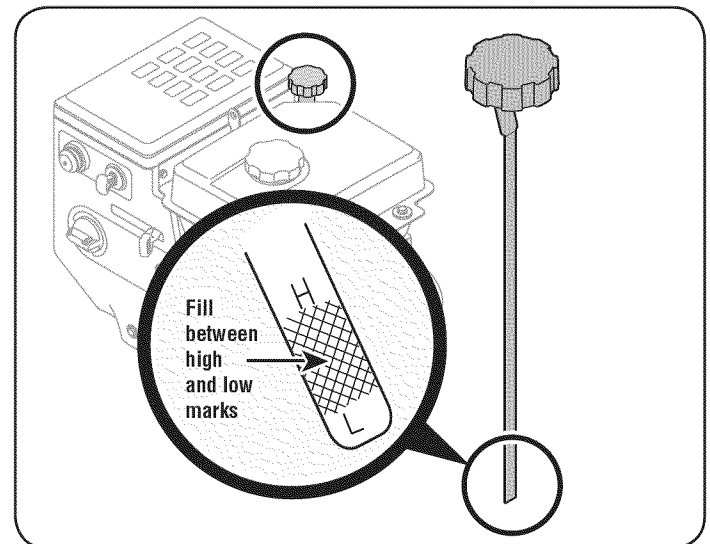

Figure 9
1. Remove oil filler cap/dipstick, wipe the dipstick clean. See Fig. 9.
3. Remove the oil filler cap/dipstick. If the level is low, slowly add oil until oil level registers between high (H) and low (L), Fig. 9. Refer to the Engine Maintenance section for correct oil viscosity and engine oil capacity.